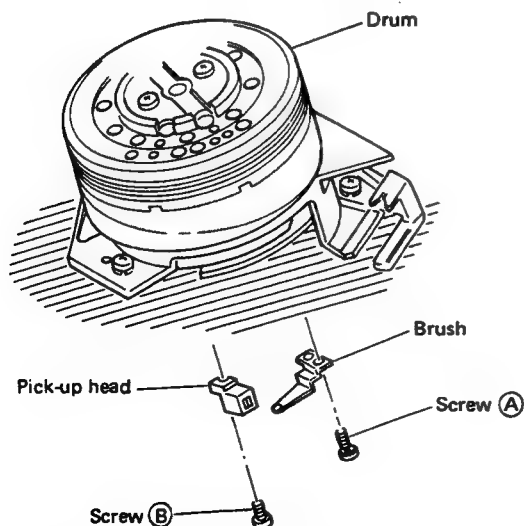

Fig. 2-17 Brush and pick-up head replacement
1. Take out screw (A) (Fig. 2-17) and replace the brush.